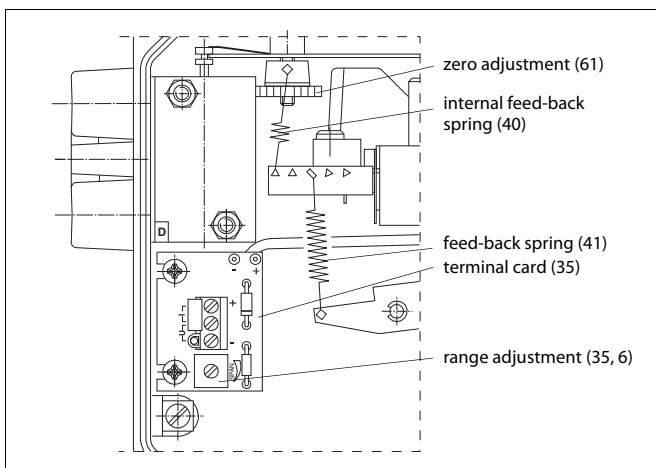

Fig. 12 Zero and range adjustments
1. Switch on the supply pressure (S) and the input signal (+/-). Note the correct polarity.
2. Set the input signal at the closed limit of the valve so that it is 2 % i.e. 0.3 mA higher or lower than the limit value, e.g.  $4 + 0.3 = 4.3$  mA or  $20 - 0.3 = 19.7$  mA. Turn the zero adjustment nut (61) with a screwdriver or fingers so that the actuator comes slowly to the closed limit. The valve should open slightly with a 4 % change in signal, that is 0.6 mA, e.g.  $4 + 0.6 = 4.6$  mA or  $20 - 0.6 = 19.4$  mA. See Figures 12 and 13.
5. Screw on the pointer (32) into place so that the yellow line is in the direction of the valve closing member. Tighten the screw (57).